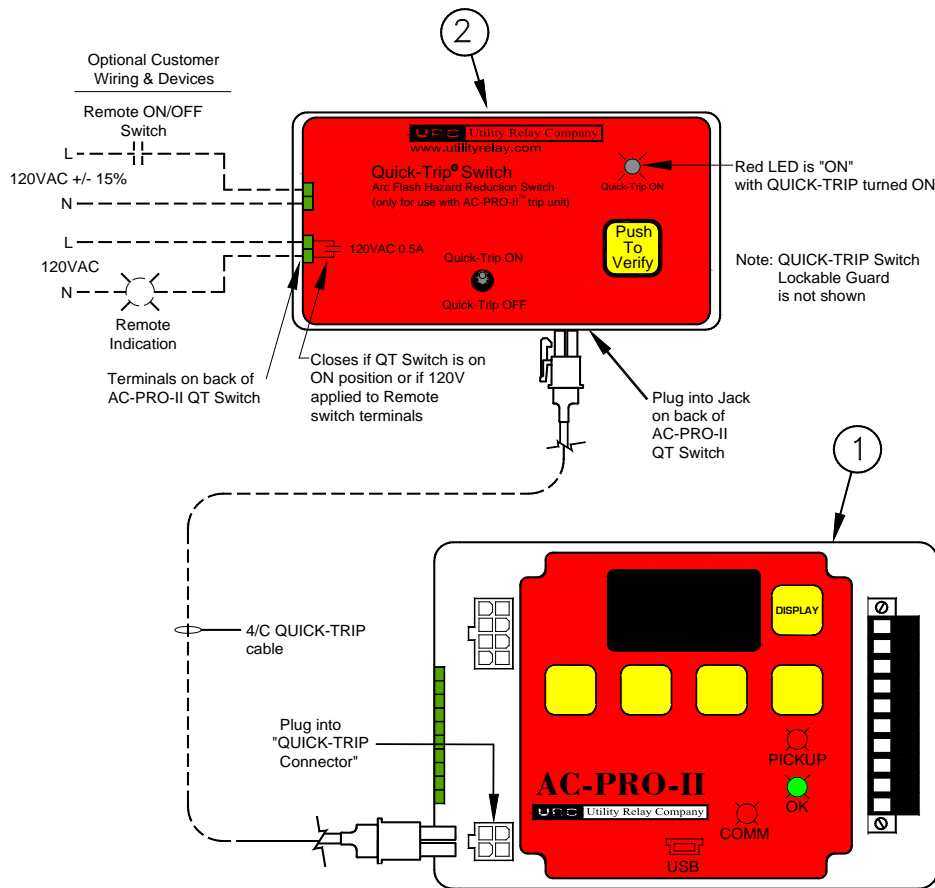

Figure 7.1: QUICK-TRIP System and Connections
Refer to Figure 7.1. If 120VAC (+/- 15%) is applied to the remote QUICK-TRIP switch terminals, the QUICK-TRIP settings are activated.
Refer to Figure 7.1. If the QUICK-TRIP System is activated (ON), the Remote QUICK-TRIP trip Indication contacts close. The contacts are rated 120VAC, 0.5A.